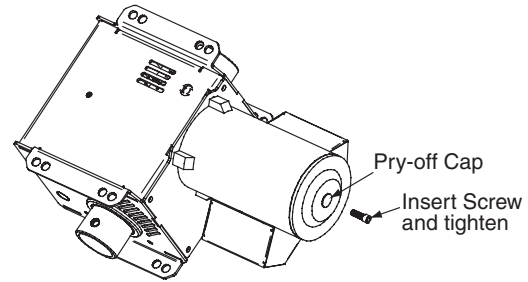

Figure 4
- ① Remove the end cap by prying it off with a flat screwdriver (see Fig. 4).
- ② Screw a $\frac{5}{16}$ " socket head cap screw or a $\frac{5}{16}$ "-18 coarse thread hex bolt into the threaded hole in the shaft. Turning the screw will slowly lower the curtain.